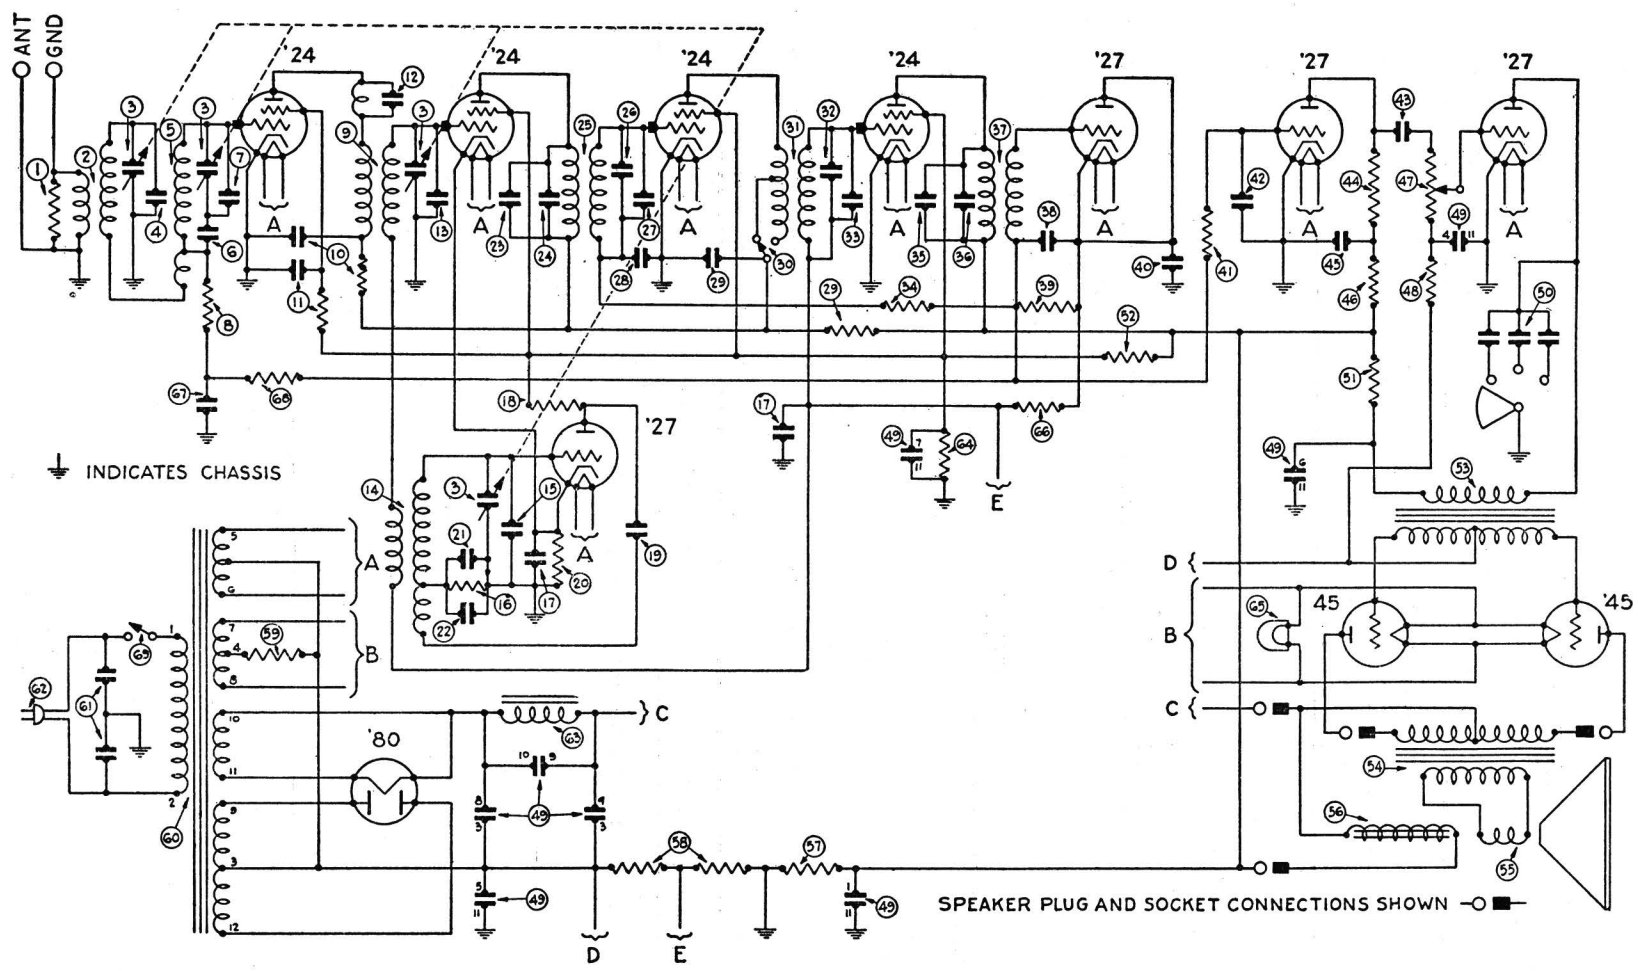

Fig. 3
No. on Figs. 3 and 4	Capacity
The Range Switch, No. ③⑩ in Fig. 3, is placed in the NORMAL position when the Receiver is shipped. This gives great distance range and is the setting which will be found most satisfactory in practically all locations. In places far from broadcasting stations, however, the Range Switch may be changed to the MAXIMUM position. This will make the Receiver super-sensitive and will give extreme distance range. Do not use the Range Switch in the MAXIMUM position if there are one or more powerful broadcasting stations near you. In any location there will be less noise between stations with the Range Switch in the NORMAL position.